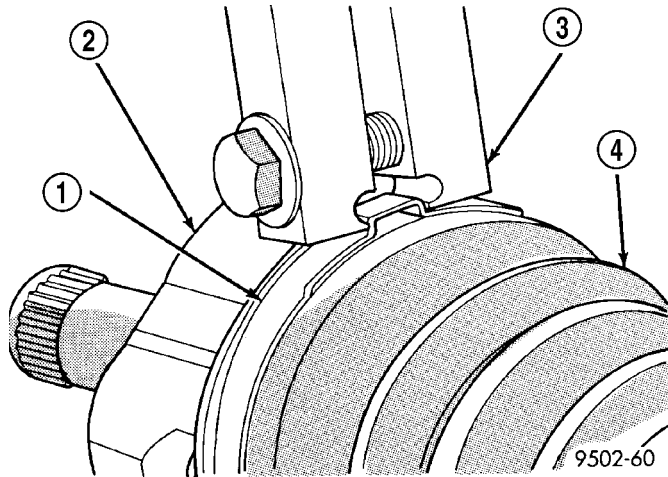

Fig. 22 Crimping Tool Installed on Sealing Boot Clamp
(1) Place crimping tool C-4975-A over bridge of clamp (Fig. 22).